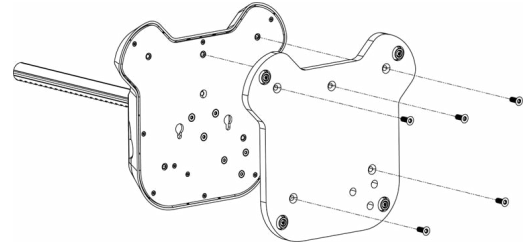

Figure 21. Remove the Weighted Base
- a. Position the stand on its back, exposing the stainless-steel weight at the bottom. Remove the weight by unscrewing the five (5) M6 Torx screws holding the weight onto the stand (see **Figure 21**). Keep the screws in a safe place for future use.